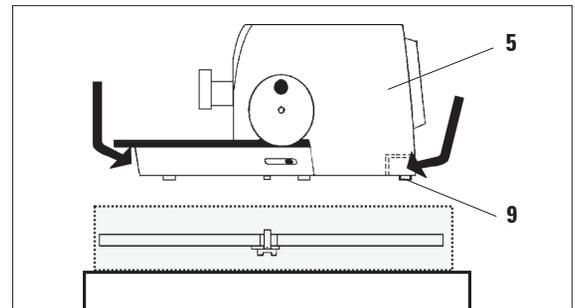

Fig. 10
- Lift the instrument (5) by holding it by the base plate and the recessed grip on the back (see Fig. 10) and lift it out of the formed cushion (6).